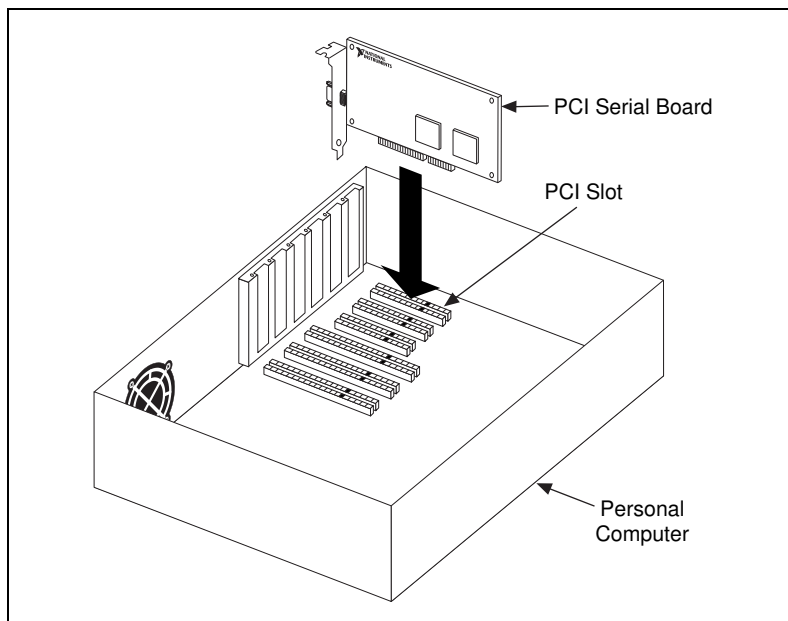

Figure 2-3. PCI Serial Board Installation
6. Insert the PCI serial board into the slot with the serial connectors toward the opening on the back panel. Make sure that you insert the board all the way into the slot. The board might seem to click firmly into place, even though it is only part of the way in. Figure 2-3 shows how to install the PCI serial board into an expansion slot.